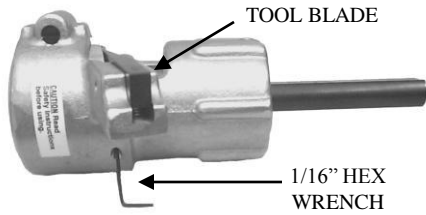

Fig. 5
Step 5. (Fig. 5) Before stripping the insulation, adjust the blade edge to 0.39mm (1/64") – 0.79mm (1/32") above the conductor surface by inserting the provided hex wrench through the hole located beneath the tool blade.